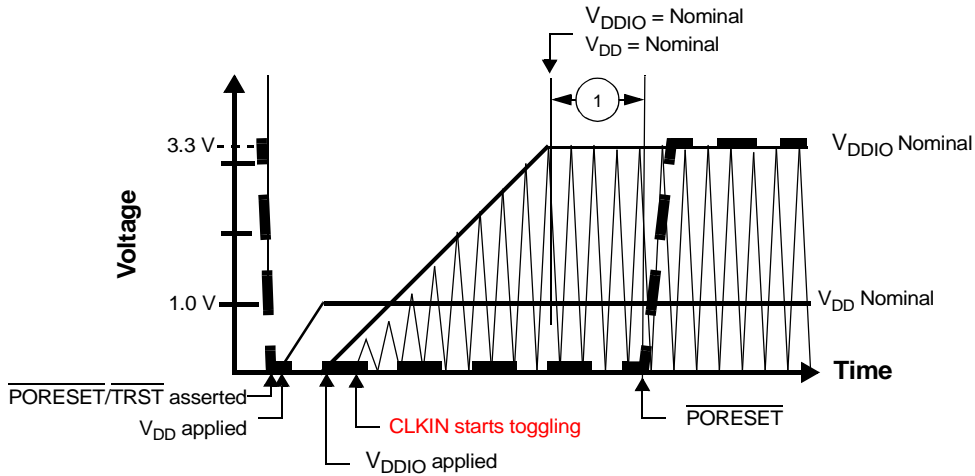

Figure 7. Start-Up Sequence with V_{DD} Raised Before V_{DDIO} with CLKIN Started with V_{DDIO}
- CLKIN should start toggling at least 32 cycles before the $\overline{PORESET}$ deassertion to guarantee correct device operation (see **Figure 7**). 32 cycles should be accounted only after V_{DDIO} reaches its nominal value.
Figure 7 shows a sequence in which V_{DDIO} is raised after V_{DD} and CLKIN begins to toggle with the raise of V_{DDIO} supply.